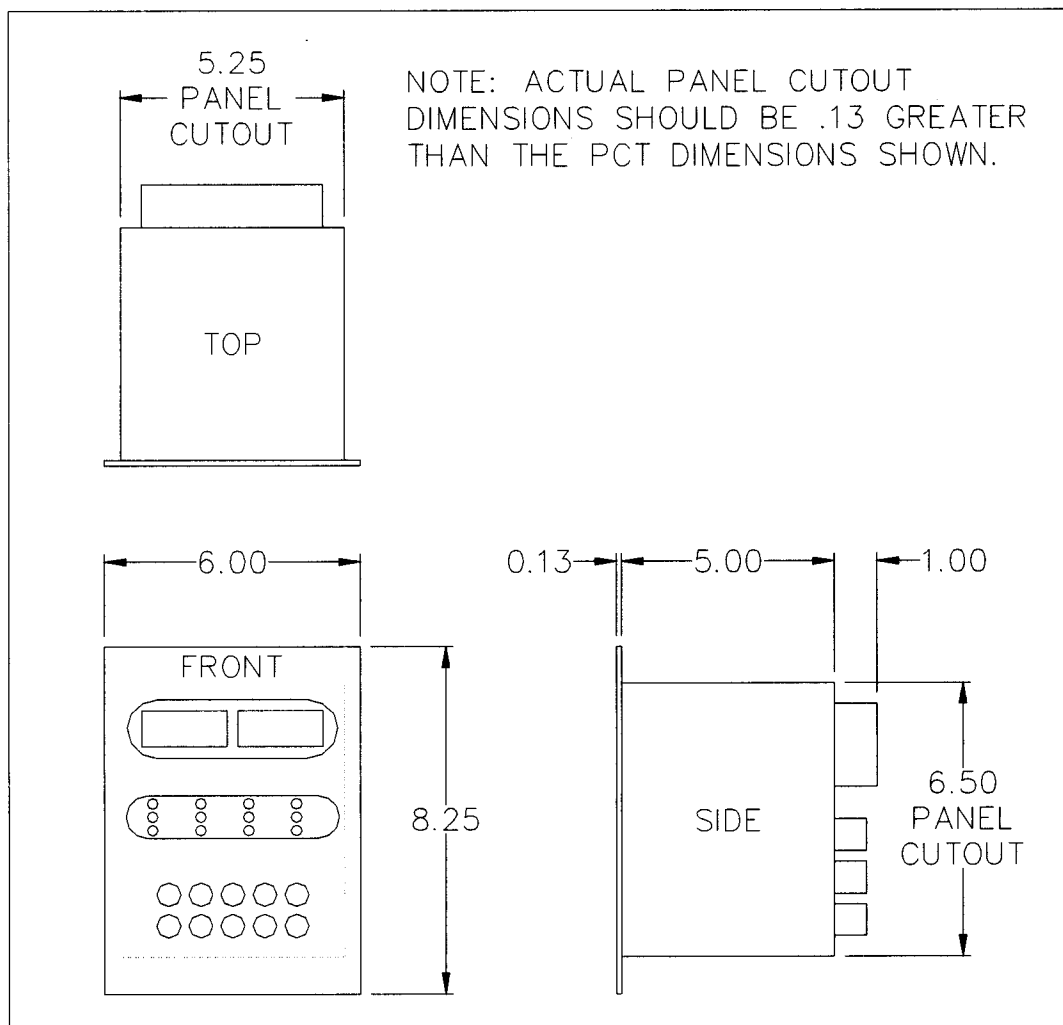
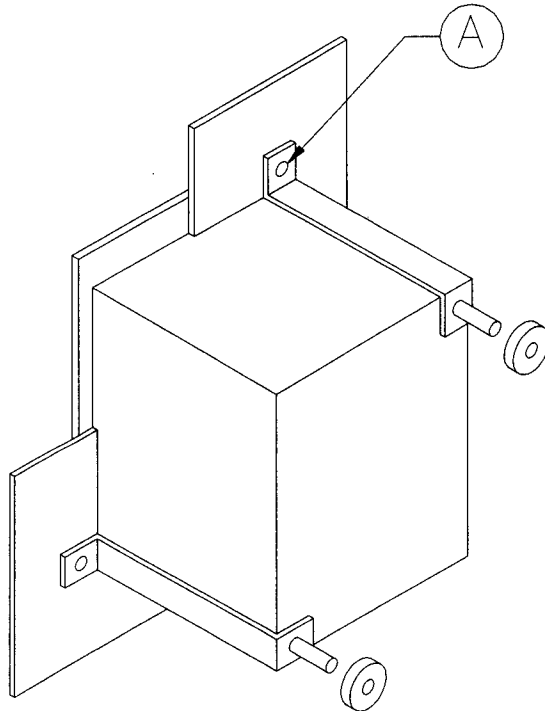

Figure 4.1 MICROTEMP PCT Panel Cutout Dimensions
Figure 4.2 MICROTEMP Installation Details
After determining the location of the PCT, refer to Figure 4.1 for cutout dimensions and Figure 4.2 for installation details.
4. Secure the PCT in the cutout by binding the cut out panel between the PCT facia and the mounting brackets, as shown in Figure 4.2.
NOTE: Do not over tighten the mounting brackets. Self-tapping screws may be used to secure the brackets to the panel, if desired. (Figure 4.2 "A")